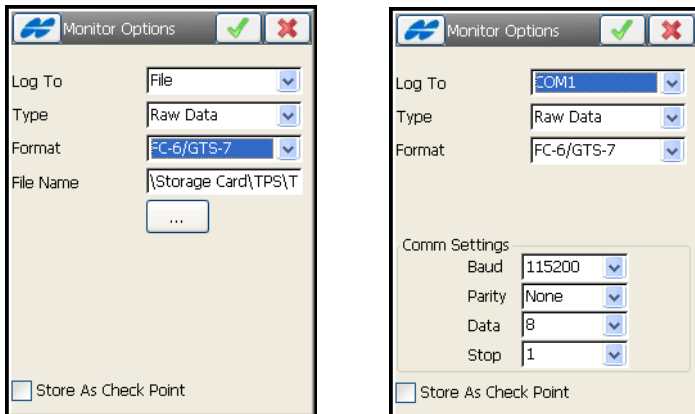

Figure 8-76. Monitor Options
1. Set the format and destination for the output file in the **Monitor Options** screen which is accessed from the context menu in the upper-left corner of the *Configure Instrument* dialog box (Figure 8-76).